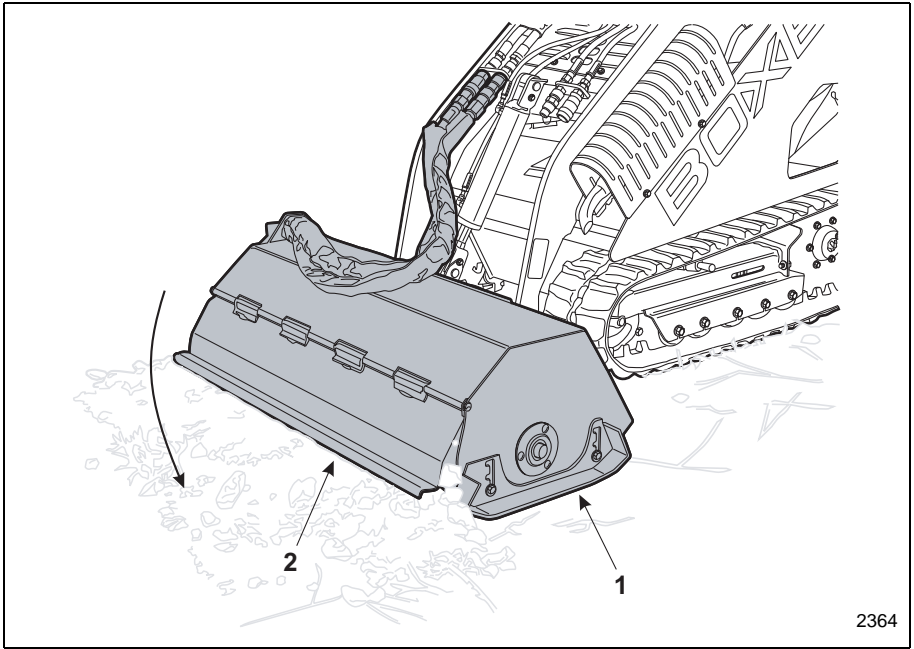

Figure 10 Roto-Tiller in Work Position
- Using the tilt control, slowly rotate the roto-tiller downwards into the ground until the skid shoe (Item 1, Figure 10) is in full contact with the ground. Make sure that the skid shoes (Item 1, Figure 10) remain in contact with the ground.
NOTICE: If a rock or other solid object are encountered, the roto-tiller may kick it out through the hinged discharge panel (Item 2, Figure 10).